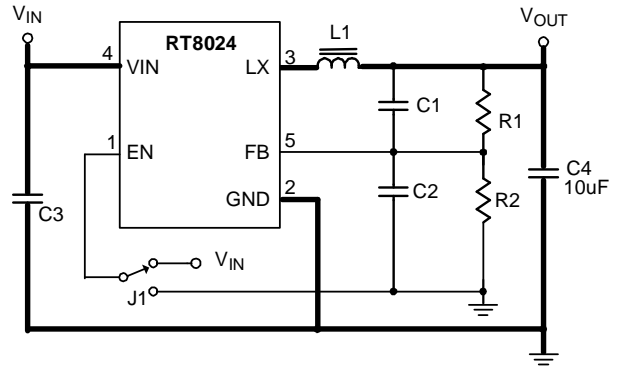

Figure 6. EVB Schematic
- › For the main current paths as indicated in bold lines in Figure 6, keep their traces short and wide.